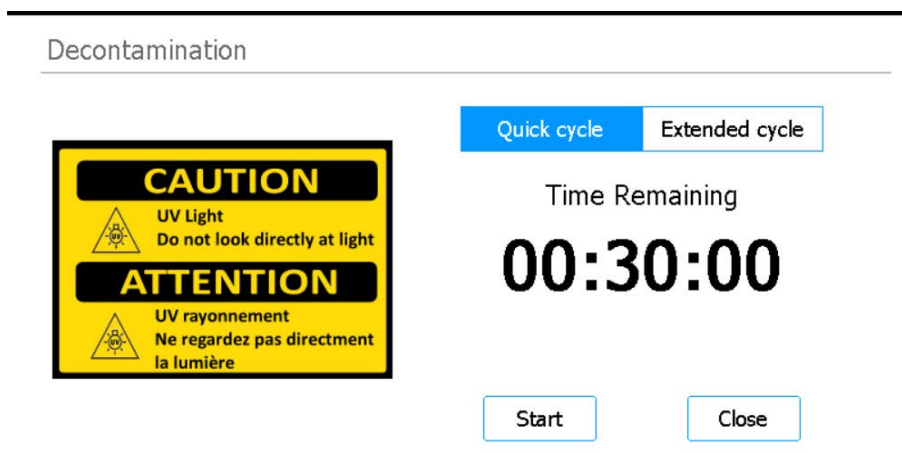

Figure 21 Decontamination screen with Quick cycle selected
- 3 At the top of the screen, select **Quick cycle**, as shown in **Figure 21**